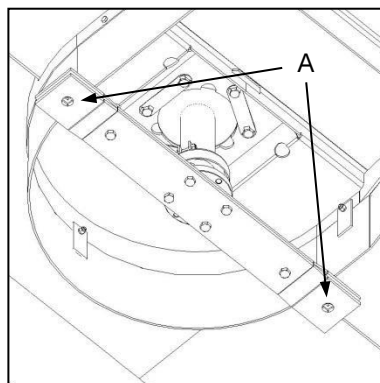

Fig. 9
- ✓ Check blade mounting holes (Fig. 9-A) for signs of wear, elongation, or fractures. In the event of any observed defect do NOT attempt a repair but provide immediate replacement of the defective item.
- ✓ Gaan lemmonteringsgate (Fig. 9-A) na vir tekens van slytasie, rekking of breuke. In die geval van enige waargenome defek, moet NIE probeer om dit herstel nie, maar vervang die defekte item onmiddellik.